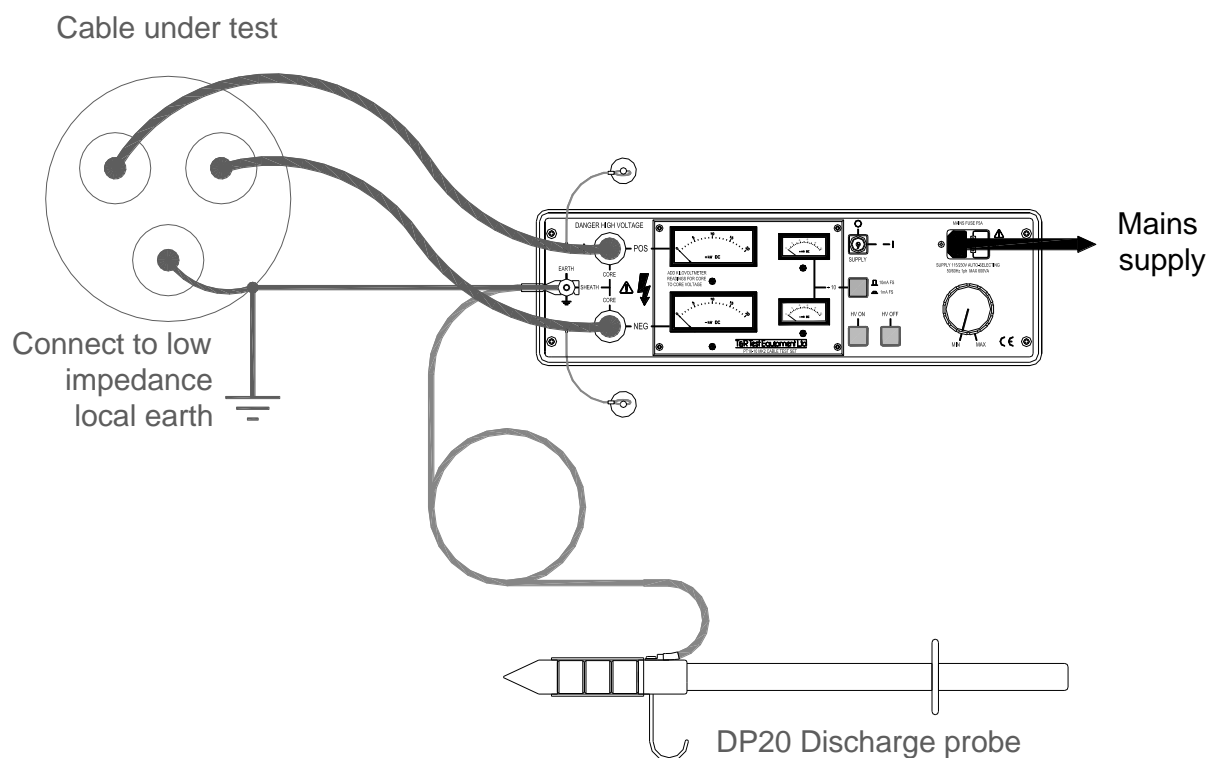

Figure 4 Connections for bipolar test
- For a bipolar test connect both the red/positive and black/negative HV leads to the output sockets on the PT18-10 and the test object as shown in figure 4.